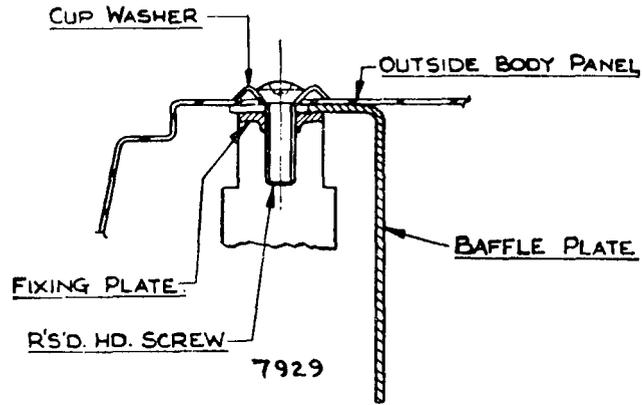

*Fig. N.35*
Assemble the indicator to the fixing plate. This is done by inserting the tag on the indicator body through the slot marked (A) in Fig. N.35 and securing these two parts by means of the cheese-headed screw and shakeproof washer (B). Thread the wire through the hole (C) and connect it to its terminal.